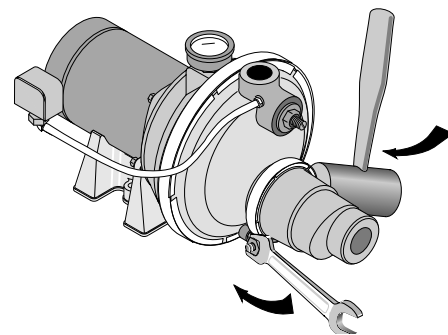

Figure 4: Mount Ejector – Shallow Well
3. Install ejector kit FP4875 or 29650 (kits are sold separately). Follow the instructions provided with the kit. Be sure to align the venturi with the top hole on the front of the pump (see Figure 4).
2. Install ejector kit FP4875 or 29650 (kits are sold separately). Follow the instructions provided with the kit. Align the venturi with the top hole on the front of the pump (see Figure 4).